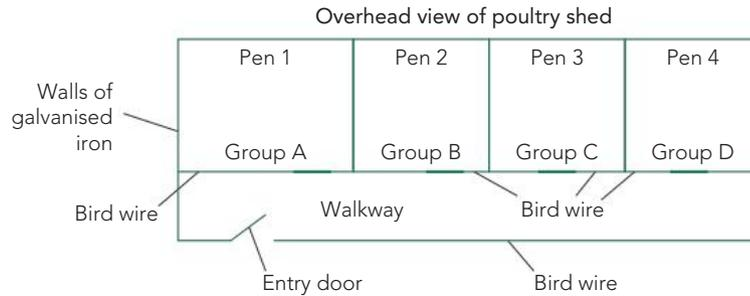

Figure 2.9 Experiment setup
- 22 Examine the shed design in Figure 2.9, which is being used to test different treatments of Groups A–D. What problems can you list that could influence the final result?
- 23 The aim of the experiment shown in Figure 2.9 was to weigh the various groups of birds and compare their growth rates. Group A contained all male birds; group B, all female birds; and groups C and D, mixtures of unsexed birds. What do you think the experimenter was trying to establish? What factors would have to be controlled so that an accurate conclusion could be reached?
Good experimental design allows for valid comparisons between treatments and assists in determining what is occurring in a living population. Good design tests what the experimenter wants to examine, not the interaction of many factors. An important part of good experimental work is the manner in which measurements are made and analysed. An experiment is considered to be valid if the correct experimental procedures have been followed. Examine Figure 2.9 and then answer the questions in the margin on design.